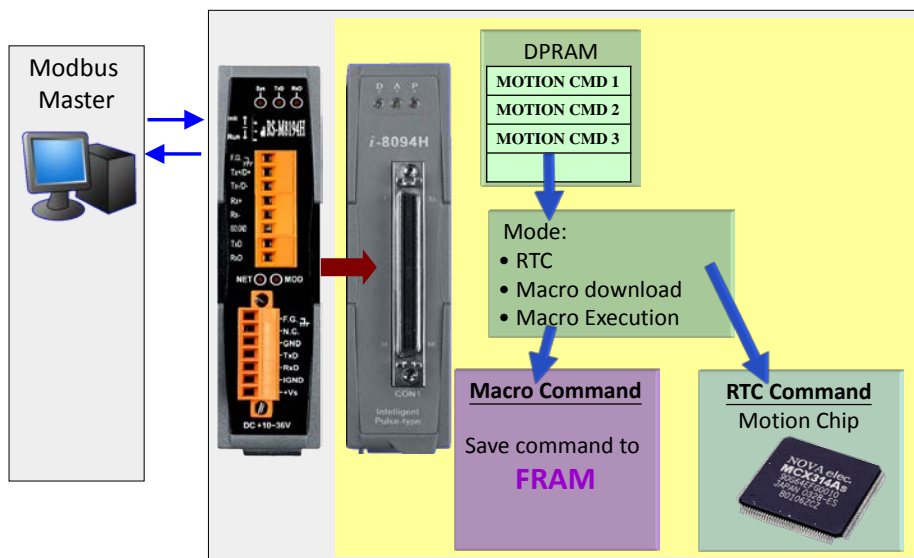

Figure 2: i-8094H situated in slot 1 of the motion device
- The i-8094H module (Figure 2) in slot 1 is mainly responsible for executing motion commands and storing the Macro tables in its non-volatile memory. The motion control chip and the non-volatile memory for storing Macro tables are part of the i-8094H module. Furthermore it has a DPRAM (volatile FIFO buffer) which stores up to 29 commands for further processing.